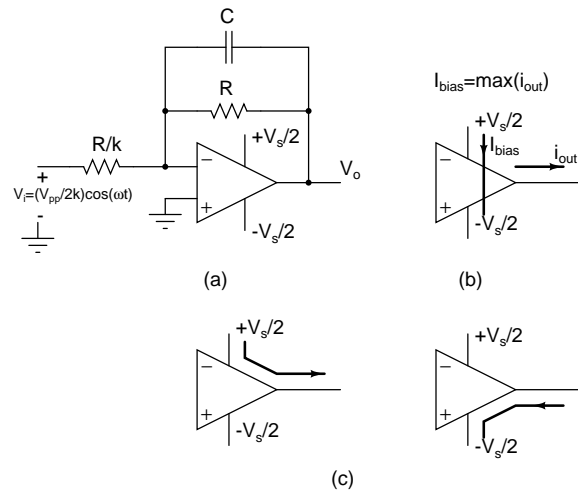

Figure 5:
- Determine the rms signal, rms noise, signal to noise ratio (as a ratio of mean squared quantities) at the output of Fig. 5. Assume an low frequency input. What is the amplifier's transfer function? The opamp can be either (i) class A (Fig. 5(b)): In this case a constant current I_{bias} , equal to the highest possible output current) is drawn from the amplifier; or (ii) class B (Fig. 5(c)): In this case, currents out of the opamp are drawn from the positive supply and currents into the opamp are pushed into the negative supply. In each case, calculate the power dissipation. Relate the power dissipation to amplifier specifications: gain, bandwidth, and signal to noise ratio.